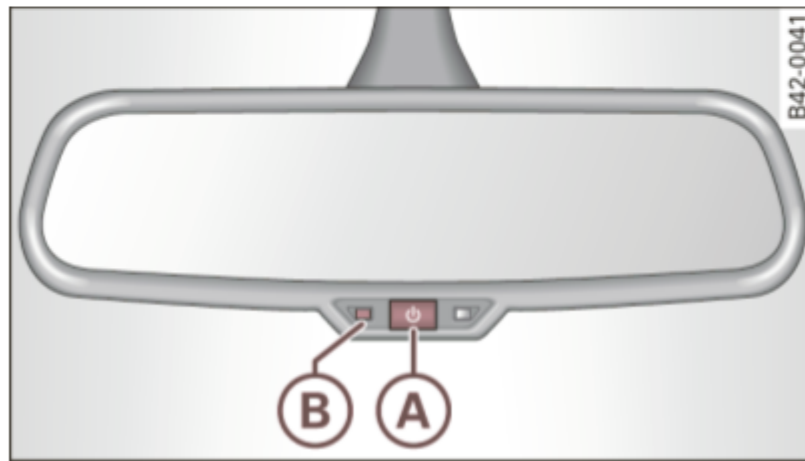

Fig. 51 Inside rear-view mirror: auto dimming on/off button and indicator light
- Press button (A) ⇒ fig. 51 - the green indicator light (B) goes out.
- Press button (A) ⇒ fig. 51 - the green indicator light (B) goes on.